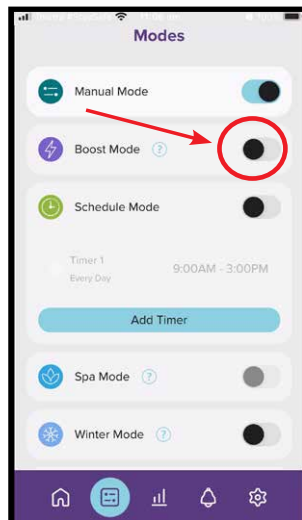

Figure 9.46
- In the “modes” menu, **BOOST MODE** can be toggled on, or off by simply sliding the switch (ref Figure 9.46).